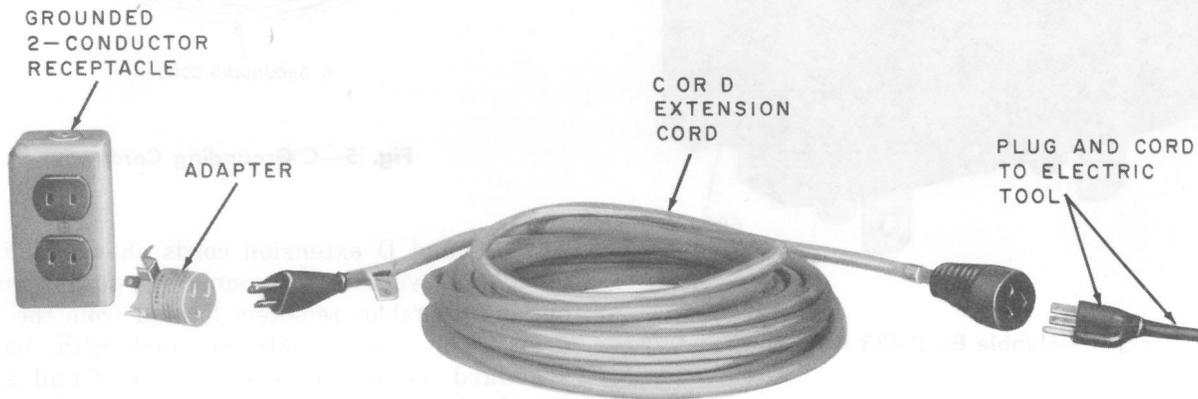

Fig. 7—Typical Cord Makeup
3.06 The D extension cord is used for connecting heavy duty electric tools such as a 1/2-inch drill or an electric soldering pot to a power outlet. The D extension cord is rated for 15 amperes at 120 volts or 1.875 kW. The C extension cord is rated at 7.5 amperes at 120 volts or 937 watts. Figure 7 gives a typical cord makeup using an extension cord and adapter.